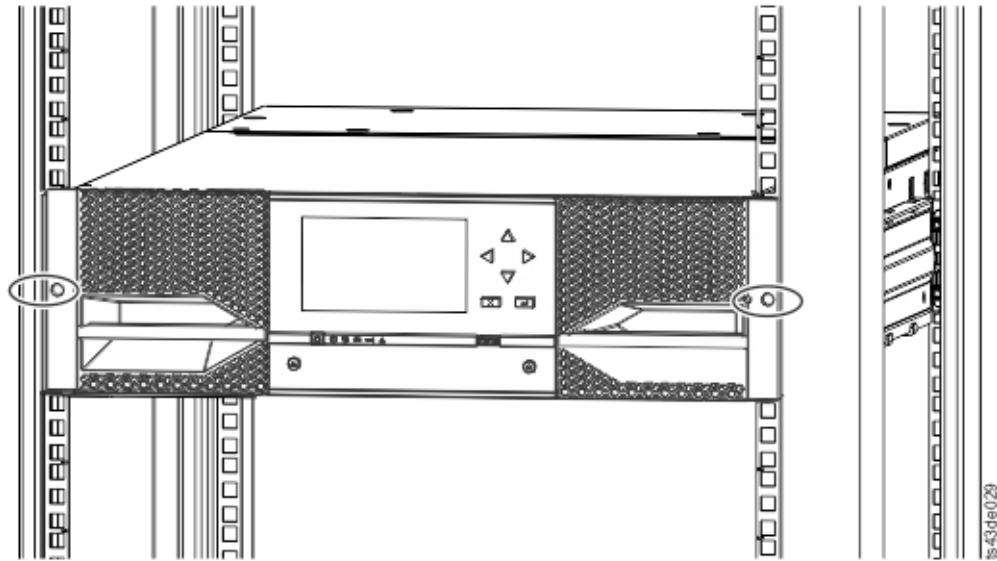

Figure 35. Library in the rack
5. With a Phillips screwdriver, loosely screw the module to the front of the rack, one screw on each side. See the circled areas in Figure 35 on page 50.